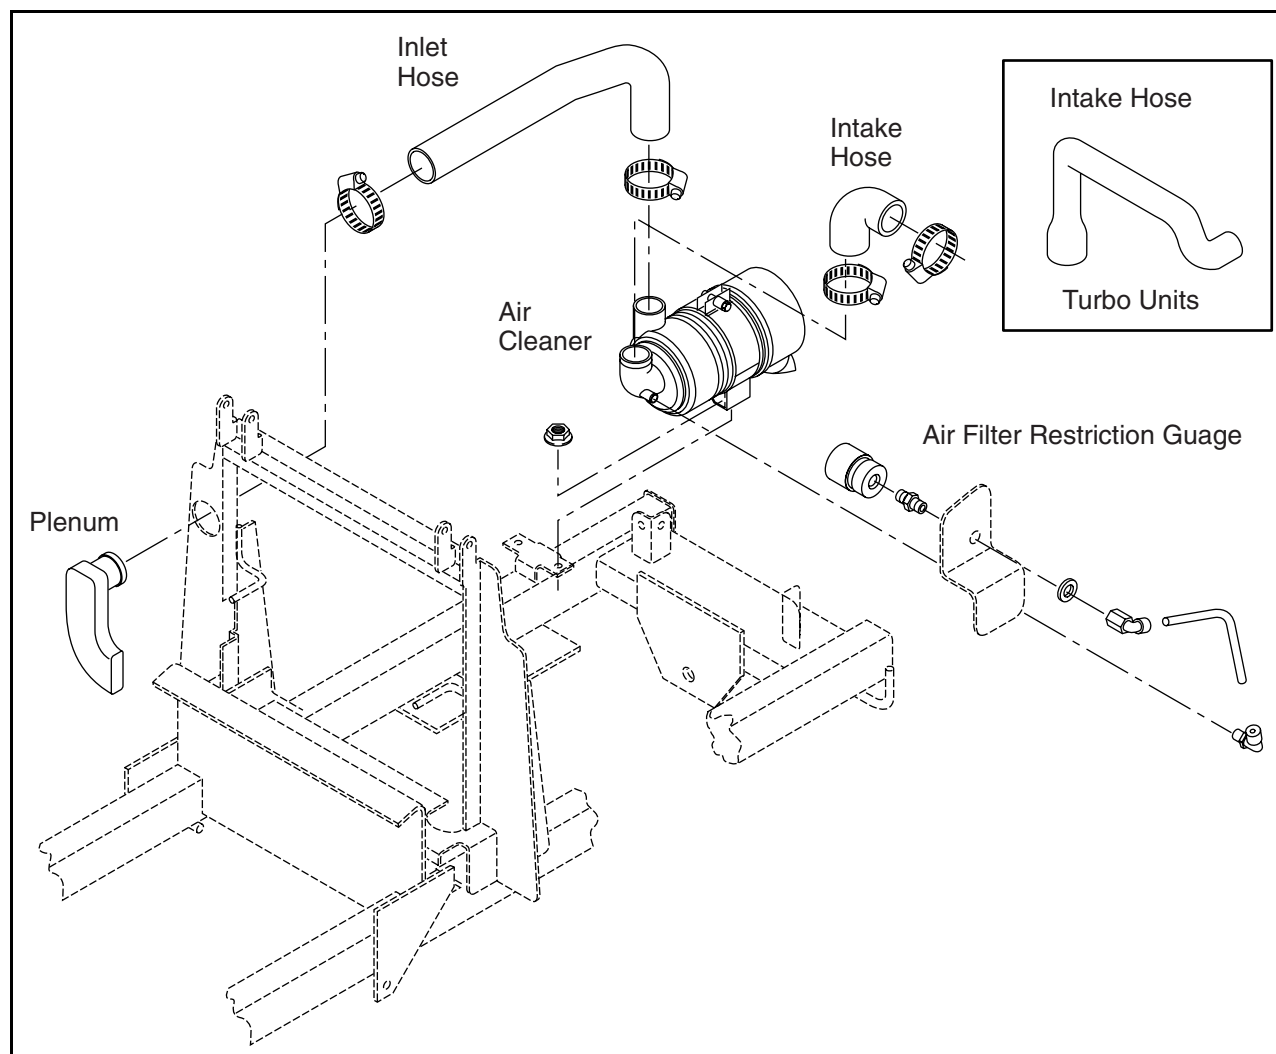

Figure 3D-4. Air Cleaner Assembly Exploded View
1. Release the spring clips and remove the air cleaner end cover. Using damp lint-free cloths, thoroughly clean the inside of the end cover including the dust evacuator (Figure 3D-5).
2. Pull the air filter element free of the housing. Using damp lint-free cloths, clean the inside of the filter housing (Figure 3D-5).